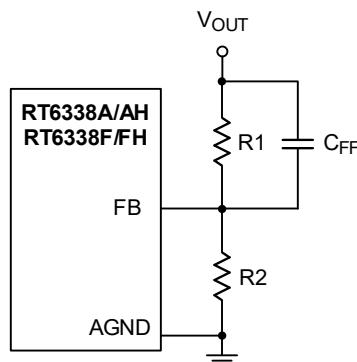
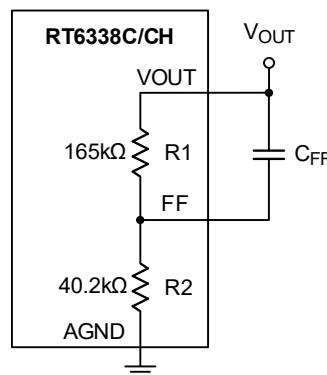
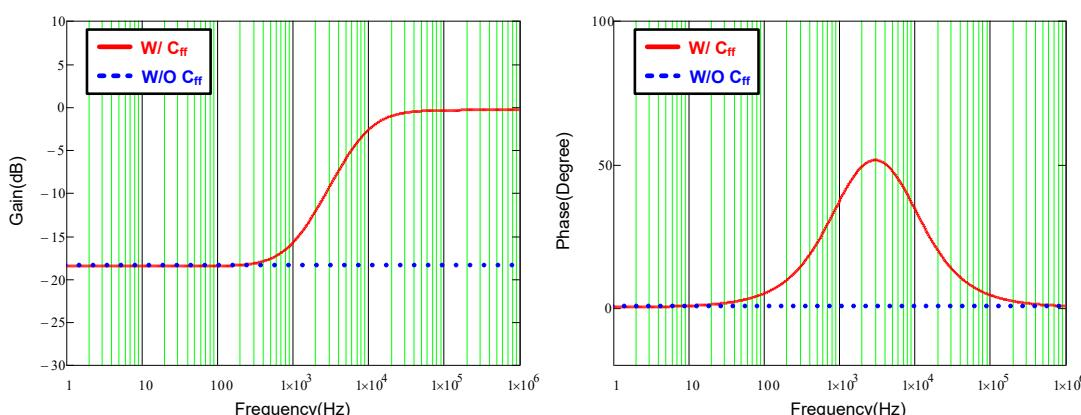

Figure 16. RT6338A/AH Feedback Loop with Feedforward Capacitor
Figure 17. RT6338C/CH Feedback Loop with Feedforward Capacitor
Figure 18. Bode Plot with Different Feedback Loop Conditions
To save time for compensator design and to reduce the layout area through external components, the components of compensator are integrated in the IC. However, this integrated compensator might not be suitable for every load transient specification. Hence, to make the RT6338 more adaptable, the feedforward capacitor CFF is used in the feedback loop to improve transient response, as shown in Figure 16 and Figure 17. Figure 18 shows the comparison result of bode plot with different feedback loop conditions. As shown in Figure 18, adding a CFF to the feedback network increases both gain and phase in the mid-frequency, which not only extends the bandwidth but also boosts the phase margin. Moreover, there is also a high-frequency pole to eliminate high-frequency noise. Consequently, those features of the feedforward feedback network allow the RT6338 to have faster response to different load transients.
According to Figure 18, the maximum phase boost that occurs between zero and pole frequencies is defined as maximum phase boost frequency, as expressed in equation (4). Hence, in order to achieve the maximum phase boost by adding CFF in the RT6338, the system's original bandwidth has to be located at maximum phase boost frequency.